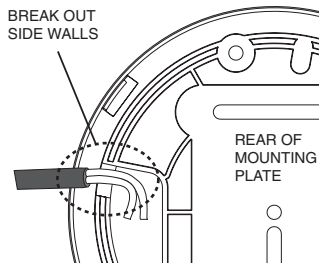

Figure 8
2. Bring the cable through the opening in the mounting plate (before screwing it to the ceiling) (see figure 8).